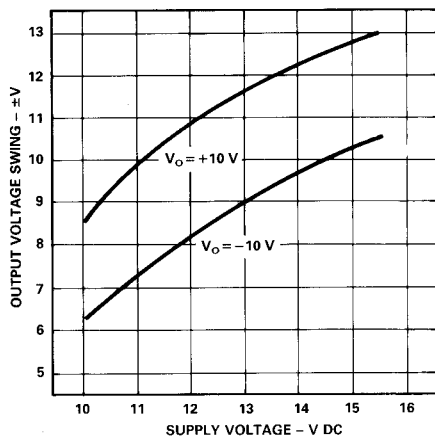
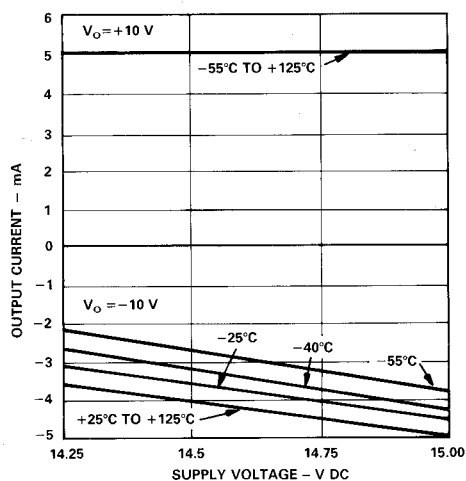

Figure 9. Output Voltage Swing ( $\pm$ V) vs. Power Supply Input Voltage (V DC), with a 2.5 k $\Omega$  Load
Figure 10. Output Current (mA) vs. Supply Voltage (V DC) and Temperature (°C), with  $V_{ISO}$  Loaded at 5 mA
3For additional information on the Rated Output parameters, refer to Figure 9 for a plot of the Output Voltage Swing vs. Power Supply Voltage, and Figure 10 for the Output Current vs. Temperature and Power Supply Voltage relationship.
6Refer to Figure 9 for a plot of output voltage swing versus supply voltage.
**Rated Output.** The rated output voltage, across the OUT HI and OUT LO terminals, for the AD203SN is specified at  $\pm 10$  V. This specification applies when the AD203SN is powered by a +15 V dc supply. The rated output voltage level is, however, affected by the input power supply voltage and the loads placed on the isolated power supply. This dependency is illustrated in Figure 9.
The current delivered by the output terminals of the AD203SN will vary as a function of the supply voltage and operating temperature. These relationships are illustrated in Figure 10.